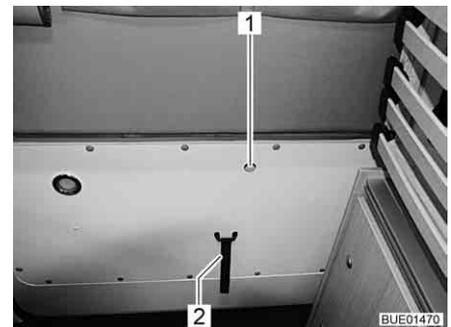

Fig. 33 Release button for rear flap, interior
- Using your finger, pull the little lever in the opening (Fig. 33,1) upwards, simultaneously pressing against the rear flap.
- Hold the edge of the rear flap or strap (Fig. 33,2) and close the rear flap.